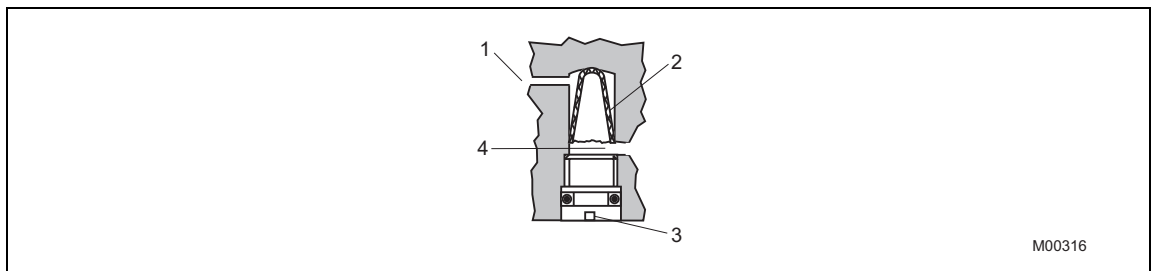

Fig. 8: Air filter (sectional drawing)
2. Remove the screw plug and pull out the filter element using tweezers (see Fig. 8).